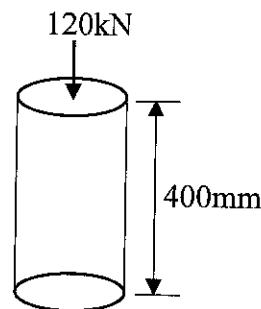

Figure A1(c) / Rajah A1(c)
- CLO1 (c) A concrete block as shown in Figure A1(c) carrying a compressive load of 120kN. The block is shortened by 0.03mm. Given the diameter of concrete block is 20mm. Calculate the value of direct stress, strain and modulus of elasticity of the concrete block.